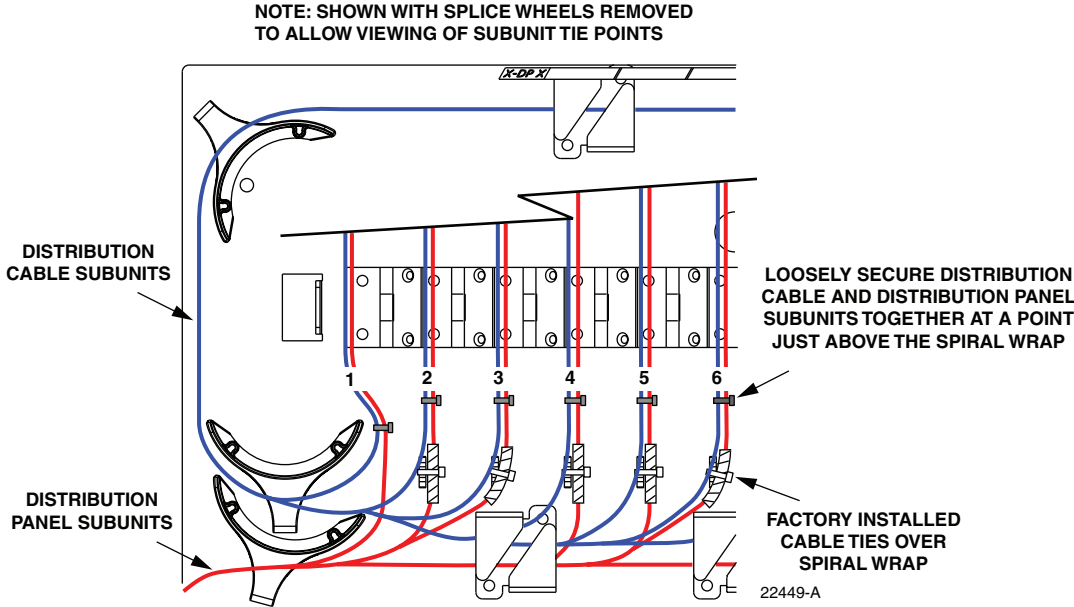

Figure 36. Securing the Distribution Cable Subunits
5. Use cable ties or lacing to **loosely** secure each distribution fiber subunit to the appropriate distribution panel subunit at a point just above the spiral wrap as shown in Figure 36.